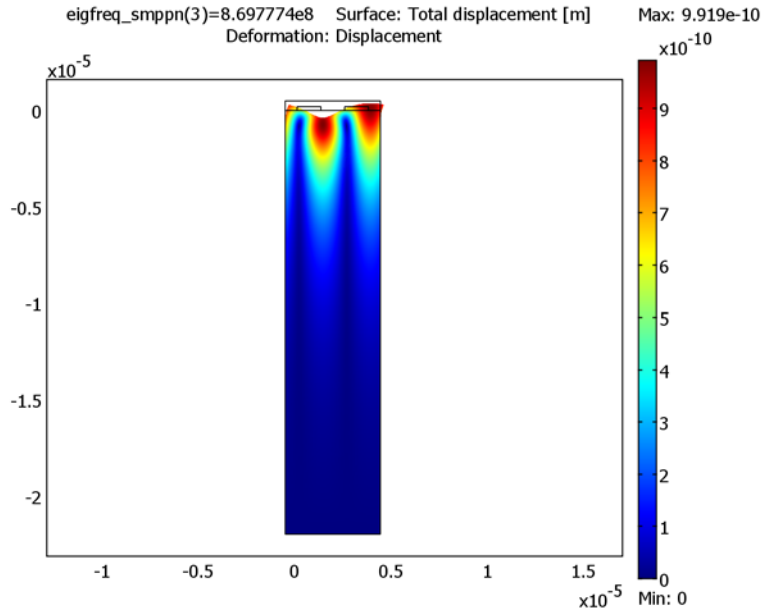

Figure 3-58: Deformed shape plot of a freely propagating SAW in the substrate. The color scale shows the magnitude of the displacements.
Figure 3-58 shows the SAW as it propagates along the surface of the piezoelectric substrate. The frequency corresponding to a $4\ \mu\text{m}$ wavelength computes to 870 MHz, giving a phase velocity of 3479 m/s.
- 4 Click **OK** to close the dialog box and see a plot of the total displacement. If you want to, you can repeat the procedure with the other solution to verify that they are the same, only shifted by 90 degrees. One of the solutions look like that in Figure 3-58.